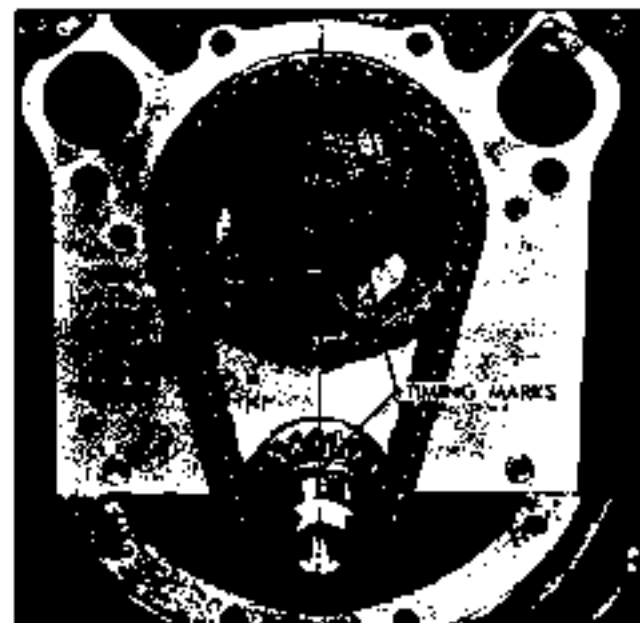

Fig. 6-97 Aligning Timing Marks
3. Align timing marks to simplify proper positioning of sprockets during reassembly (Fig. 6-97).
5. Install new timing chain and/or sprockets, making sure marks on timing sprockets are aligned exactly on a straight line passing through the shaft centers (Fig. 6-97). Camshaft should extend through sprocket so that hole in fuel pump eccentric will locate on shaft.
3. Install timing chain sprockets and timing chain, making sure marks on sprockets are aligned properly (Fig. 6-97).